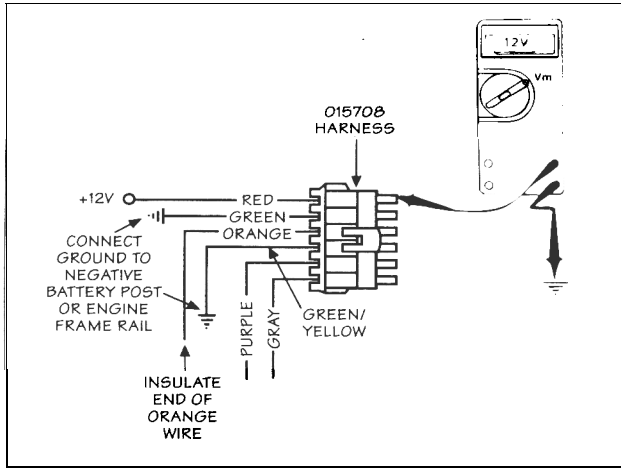

FIG. 1.1.20
**Correction:** With the ignition switch on, disconnect the P/N 015708 harness from the control module. Measure the voltage at the RED wire. Place the positive probe (+) of the voltmeter on the terminal of the RED wire and the negative probe (-) to ground. The voltmeter should read +12 VDC (Fig. 1.1.20). If this condition is not present, check that system is energized and check power supply.